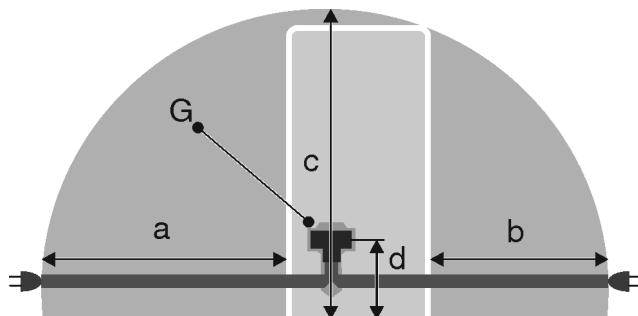

Fig. 53 \*
- The socket is not located behind the appliance but in areas a or b Fig. 53 (a, b, c).